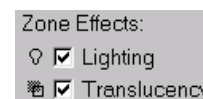

Figure 1-6. Zone Effects.
1.2.2.3. Zone Effects. For 3-D Cartesian plot types the check boxes shown in Figure 1-6 appear—Lighting; Translucency. Only shaded and flooded contour surface plot types are affected.